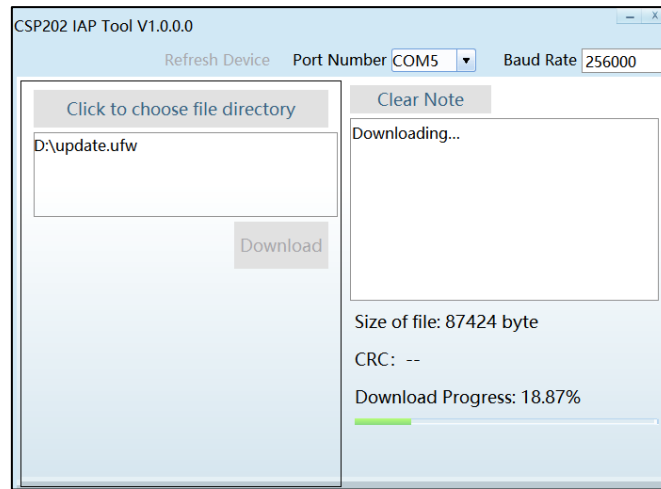

Figure 4-18 Downloading progress
Step 4: Click the **Click to choose BIN file directory** button to choose the desired ufw file. Then click the **Download** button to start the upgrade. The text box on the right will display the download results, and meanwhile the downloading progress will be shown below in real-time, as shown in Figure 4-18;